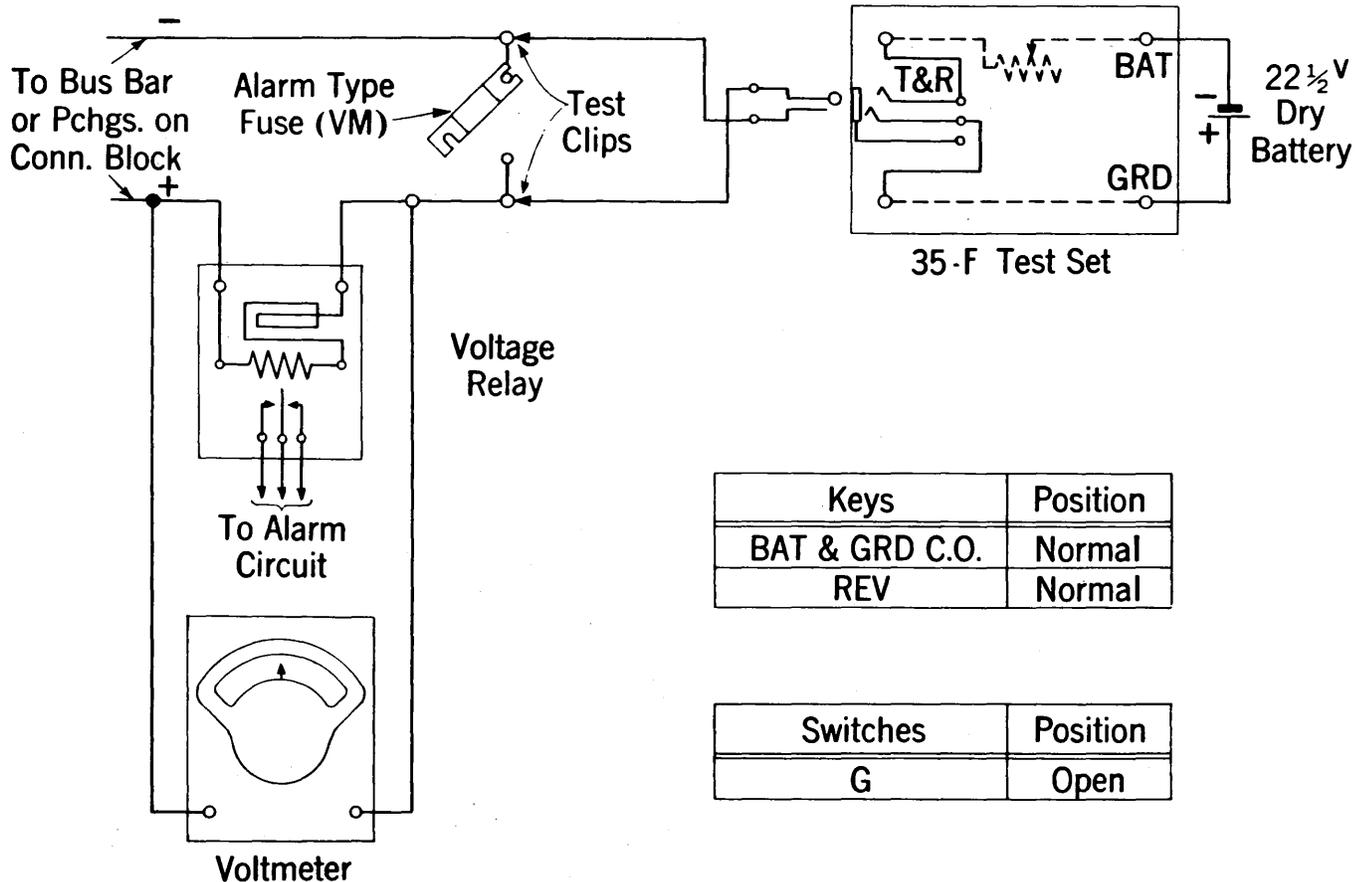

Fig. 1
- Note: If the PBX is connected to a central office using alarm circuit SD-21482-01, the alarm bell will not ring. If Fig. 1-B of this circuit is used, the central office alarm indication may not change from a major to a minor alarm.
- 3.69 Connect the No. 35F test set and dry battery as shown in Fig. 1 to the circuit to be tested. Using the testing cord between the T & R jack in the test set and the YM fuse on the power board, operate the knife switches associated with the No. 3 telegraph key of the No. 35F test set to the position marked O. See that the GRD key is open and that the REV and BATT & GRD C.O. keys are normal. Place the red resistance slider associated with the No. 3 key in its minimum resistance position (to the left). Place the corresponding black resistance slider in a position where approximately one-half of the resistance will be removed (one-half of the distance from left to right). Close the No. 3 telegraph key of the test set and then remove the fuse (VM) in series with the voltmeter relay.